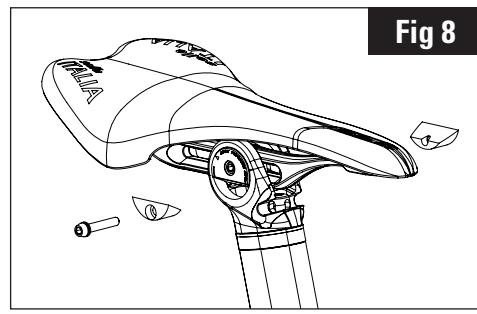

Fig 8
4. Then fix the two lower brackets (11) in place and loosely tighten the screw. (Fig.8)